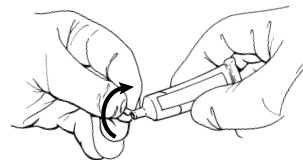

FIGURE 9
- 4b. Break off the tip of the Gel tube (See figure 9).